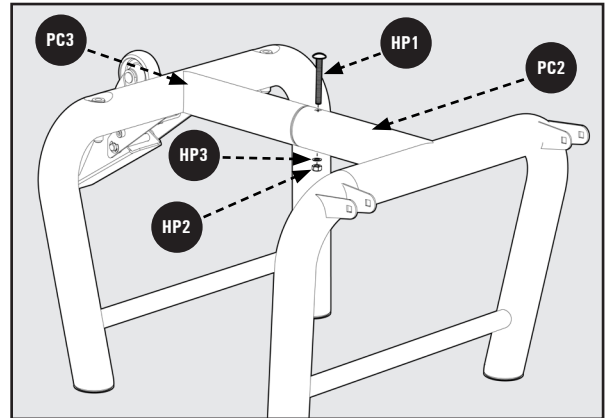

Figure 1
1. Connect the two Tube Legs together by inserting the end of the Left Leg (PC2) into the end of the Right Leg (PC3). Secure them together with (4) M8 x 75mm Carriage Bolt (HP4), M8 Flat Washer (HP3), M8 Nylock Nut (HP2) and tighten. See Figure 1.